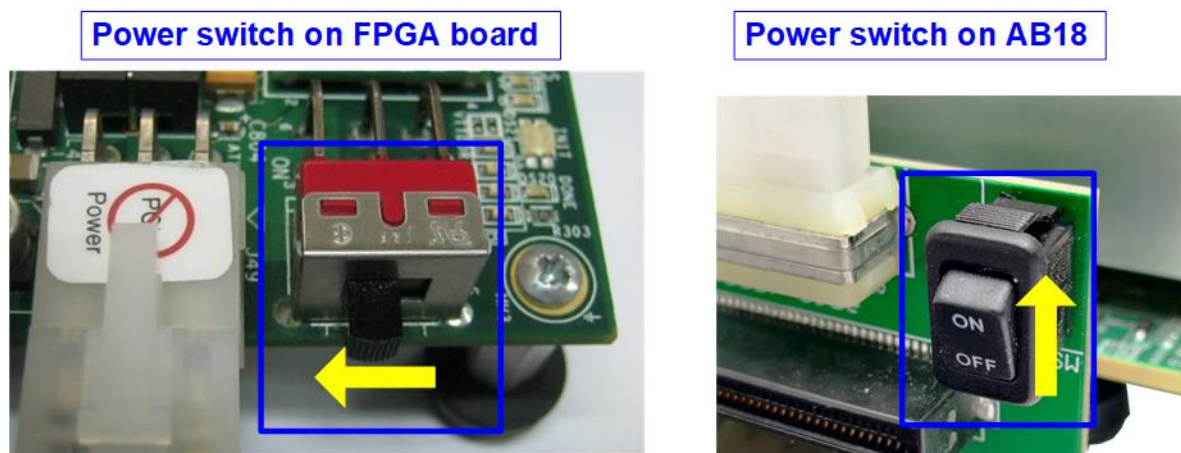

Figure 2-7 Turn on power switch on FPGA and AB18 board
- 7) Power on FPGA development board, ATX power supply, and AB18 board, as shown in Figure 2-7.